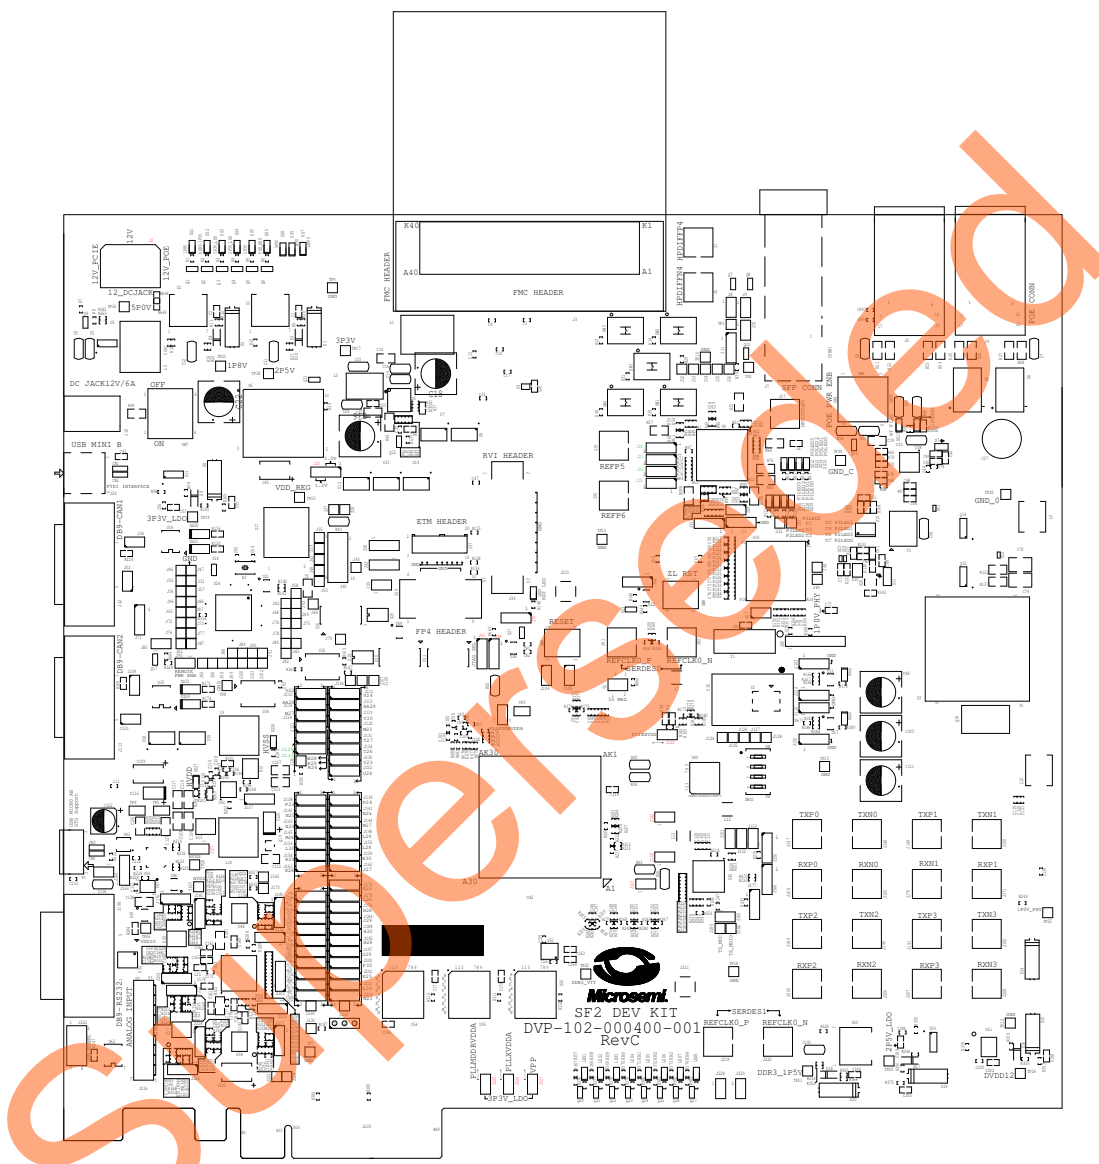

Figure 28 • Jumper Locations in Development Kit Board
Figure 28 shows the jumper locations in the SmartFusion2 Development Kit board.
- The location of the jumpers in Figure 28 are searchable.